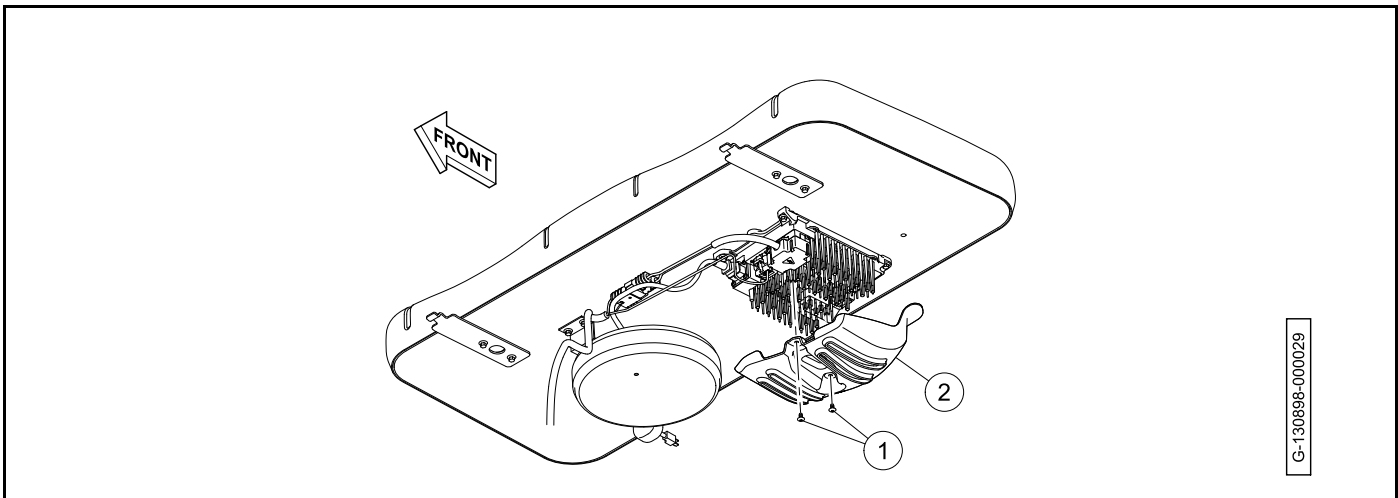

Figure 15-31 Charger Shield Removal
6. Remove the screws (1) and the charger shield (2) (**Figure 15-31**).
5. Remove the screws (1) and the charger shield (2) (**Figure 15-31**).